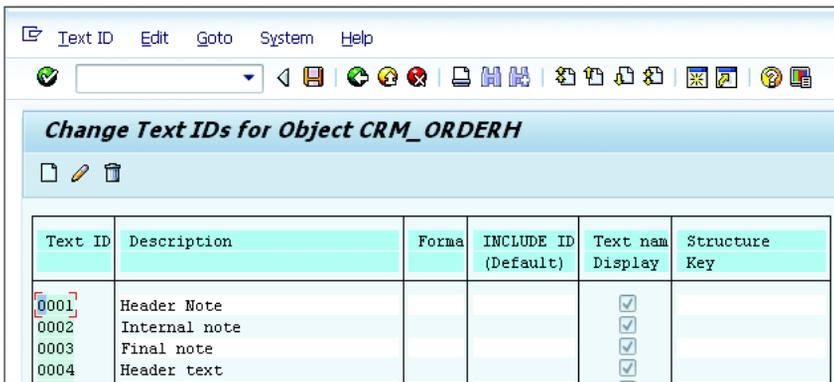

Figure 4.57 Text IDs for the Text Object CRM_ORDERM
4. Choose from the list of TEXT IDs for text object CRM_ORDERM, as shown in Figure 4.57.